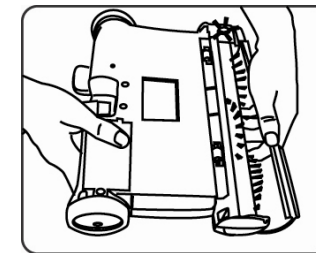

Fig. 14
- Periodically remove the transparent brush cover on the front of the cordless sweeper and remove any build up of lint, hair or fiber on the rotating brush. To remove the cover - grip the cover from the bottom, pull out and upward until the cover unlocks from the side slots and tabs located on the top of the sweeper. Carefully cut away threads or hair with scissors. (Fig. 14)
1. Remove the brush cover. (Fig. 14)